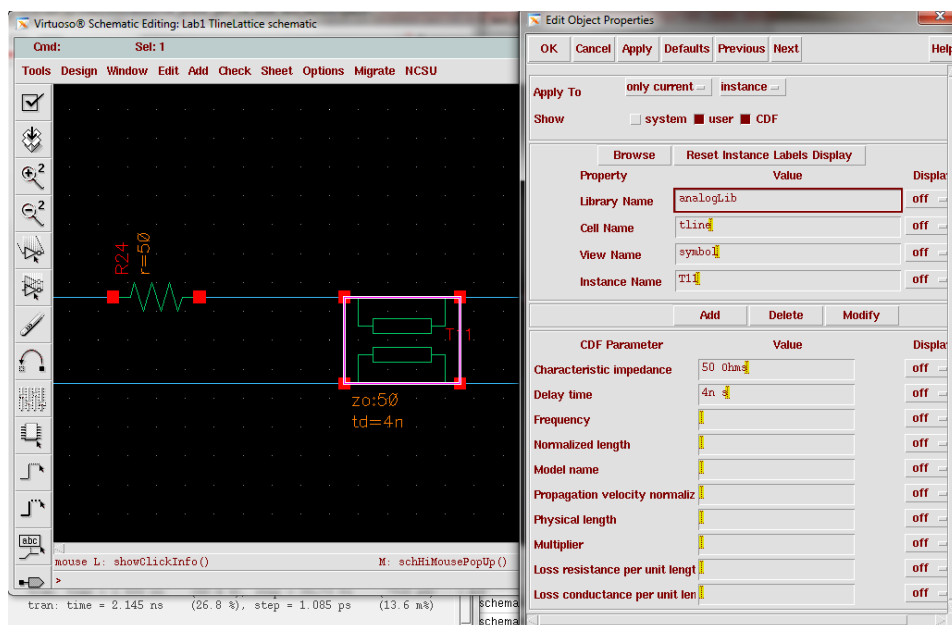

Figure 15 T-line Properties in analogLib
Step2: Specify the tline delay and characteristic impedance as shown in Figure 15.